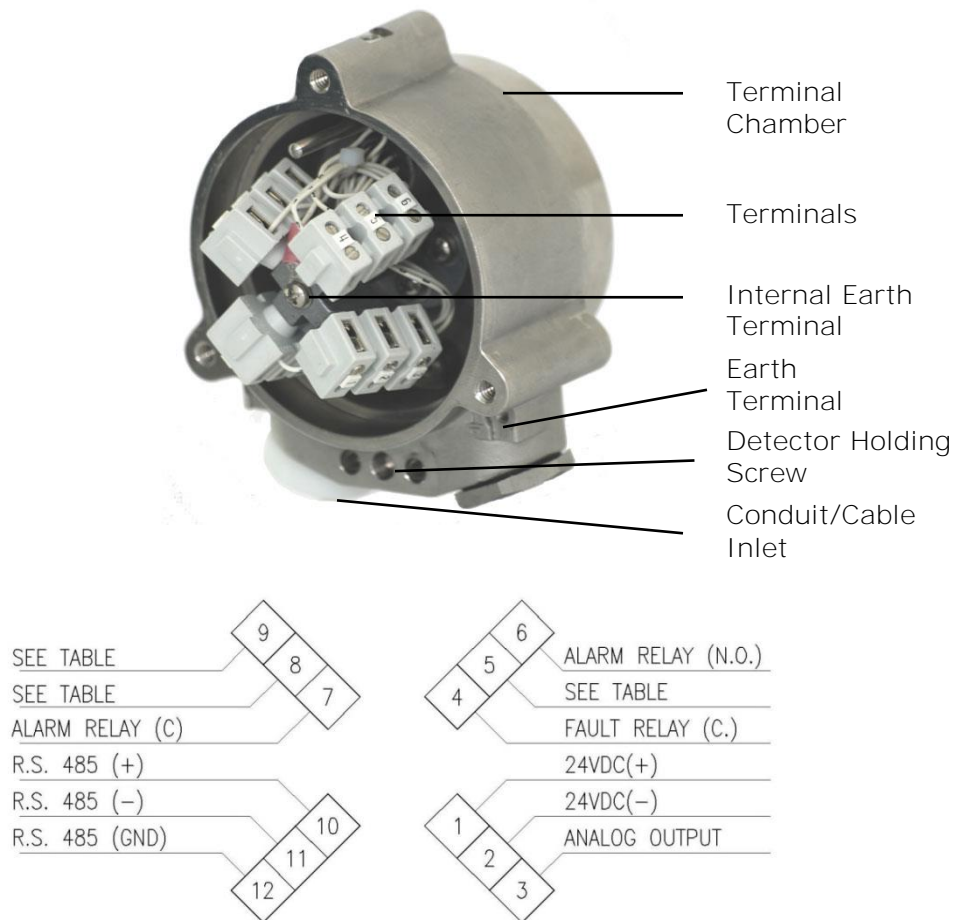

Figure 7: Detector with Cover Removed
This section describes how to connect the electric cabling to the detector (Figure 7).
- 5 Connect the wires to the required terminals on the terminal board according to the wiring diagram (Figure 7) and Table 13.
- 8 Check the wires for secure mechanical connection and press them neatly against the terminal to prevent them from interfering while closing the back cover (Figure 7).